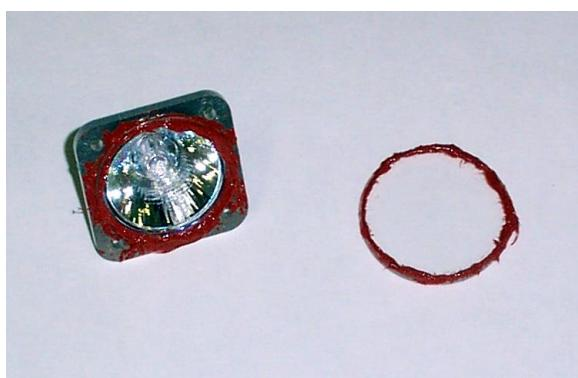

Figure 24: ATR Light Gasket
1. The glass is high temperature glass that is resistant to thermal shock. The problem with the glass is it is fragile. Both sides of the glass should be coated with a 100% pure silicone as shown in Figure 24. Let the bead of silicone to dry
2. The glass on the light will also bread if its brought in hard contact with metal. The backing plate shown in Figure 24 should also be coated with silicone and then the light can be set into it. Don't push the light too hard or you will squish all the silicone out. Let it dry